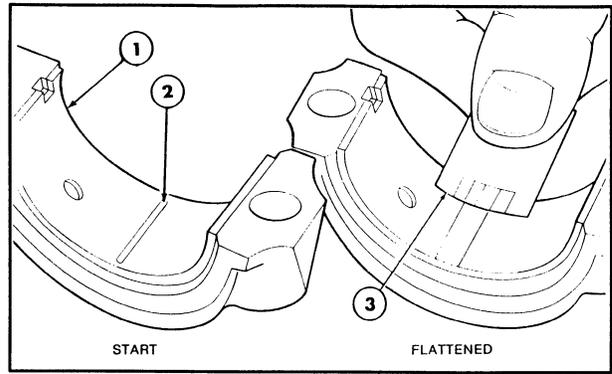

Figure 4
1. Position a piece of plasti-gauge of the correct size across the full width of each bearing liner at approximately 1/4 in. off center, Figure 4.